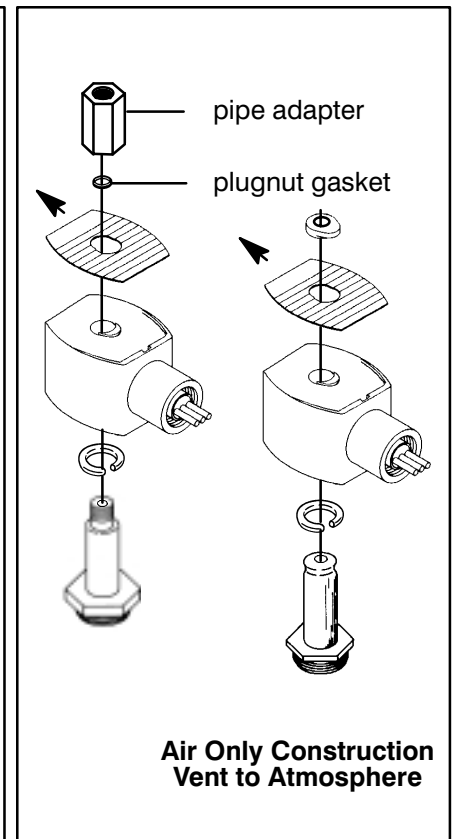

Figure 3. 3-Way Construction
3. Snap off red cap from top of solenoid base sub–assembly. For 3–way construction with pipe adapter (Figure 3), remove pipe adapter, nameplate and solenoid. Omit steps 4 and 5.